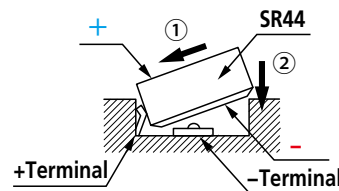

Fig. 1
5. Install an SR44 battery (**Order No.938882**) with the positive side of the battery uppermost. (**Fig. 1**)